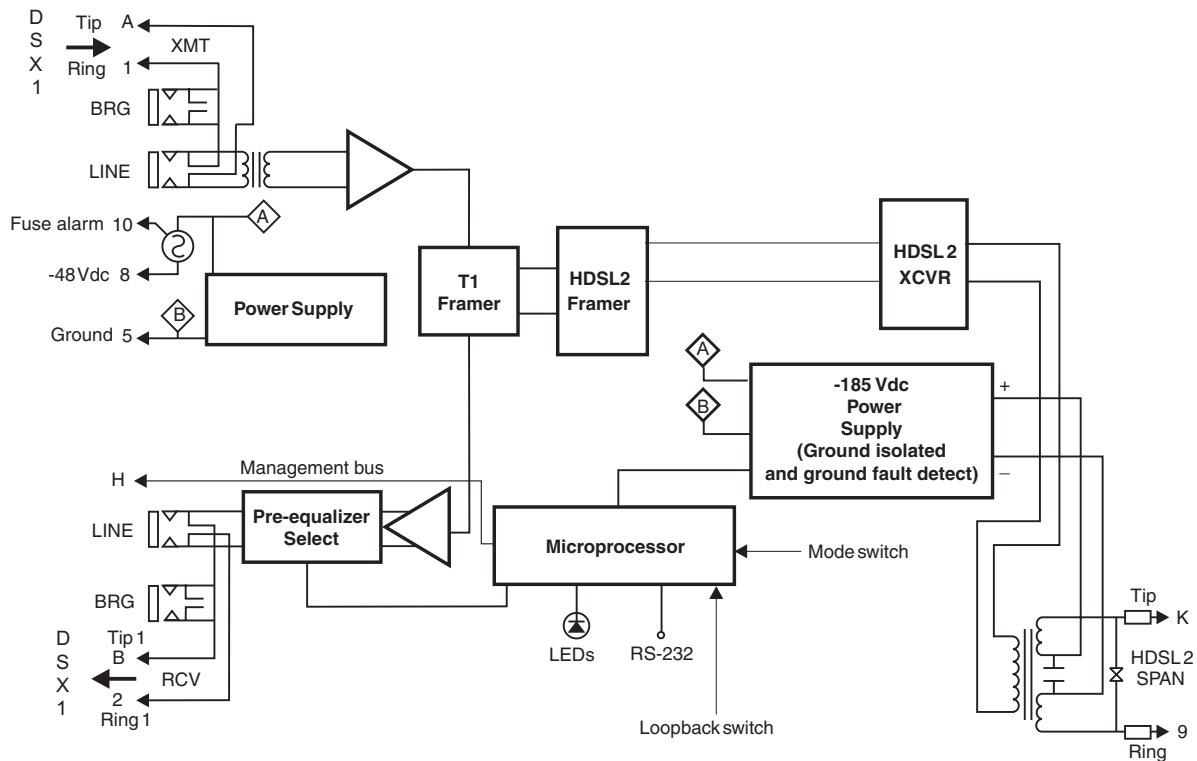

Figure 35. H2TU-C-319 List 1F Block Diagram
A block diagram of the H2TU-C is shown in Figure 35. The H2TU-C receives a 1.544 Mbps DSX-1 data stream from the DSX-1 digital cross-connect interface. The H2TU-C contains a DS1 frame synchronizer controlled by an 8-bit microprocessor that determines the type of framing on the DS1 stream. The H2TU-C synchronizes with the type of framing detected. The H2TU-C recognizes Superframe (SF), including D4, or Extended Superframe (ESF).